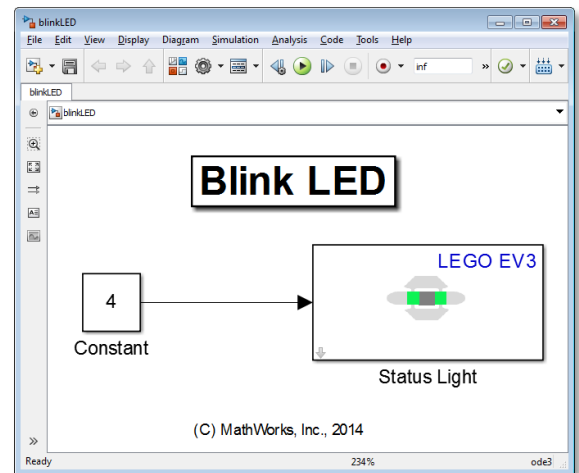

Figure 5: Project 1.1: Blink LED
1. Create a Simulink model like the one in Figure 5